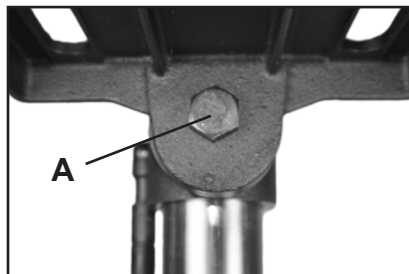
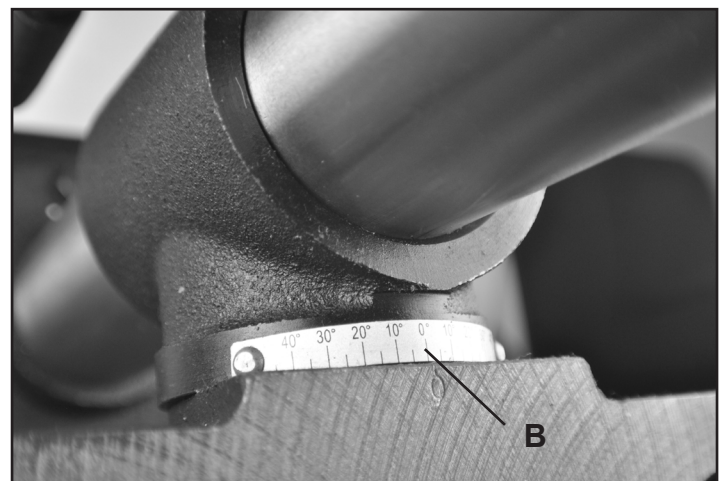

FIG. 8
FIG. 9
8. **TABLE TILT:** The drill press table will tilt 0-45 degrees left and right. To tilt, loosen the nut located under the table (FIG. 8, A). Align the "zero" mark on the table (FIG. 9, B) to the desired degree marking on the scale. Tighten the nut under the table to retain the adjustment.